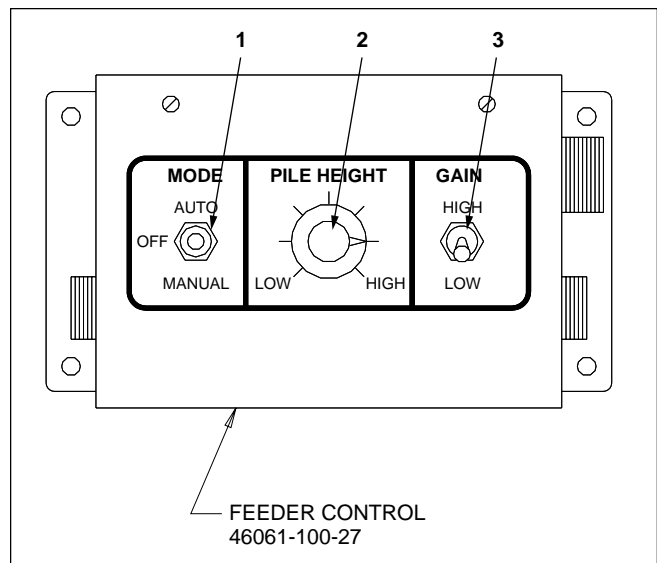

Figure 6
- 1) **AUTO/OFF/MANUAL** (Item 1, Figure 6) switch is the primary means to control the auger/conveyor. When placed in the OFF position the auger/conveyor is off; when placed in the MANUAL position the auger/conveyor is turned on. The speed of the auger conveyor when in MANUAL is determined by the pile height knob setting. When placed in the AUTO position the auger/conveyor speed is controlled by the feed sensor. In AUTO mode the auger/conveyor has the capability of being driven from 0 to full speed depending on sensor output.
- 2) The **PILE HEIGHT** knob performs different functions depending on sensor used and setting of AUTO/OFF/MANUAL switch. It's used to set the maximum speed of the auger/conveyor when the AUTO/OFF/MANUAL switch is in the MANUAL mode (Item 2, Figure 6).
- 3) **GAIN** switch must be set in the LOW position when sonic sensors are used with the system (Item 3, Figure 6). When GAIN switch is in LOW, the sonic system controls the speed of the auger/conveyor proportionally within a 5" range. When GAIN switch is in HIGH position the control range is reduced to 2.5". Since the level of the mix can vary by more than 2.5" during normal operation, the sonic control will function like an on/off switch and will not provide proportional control.